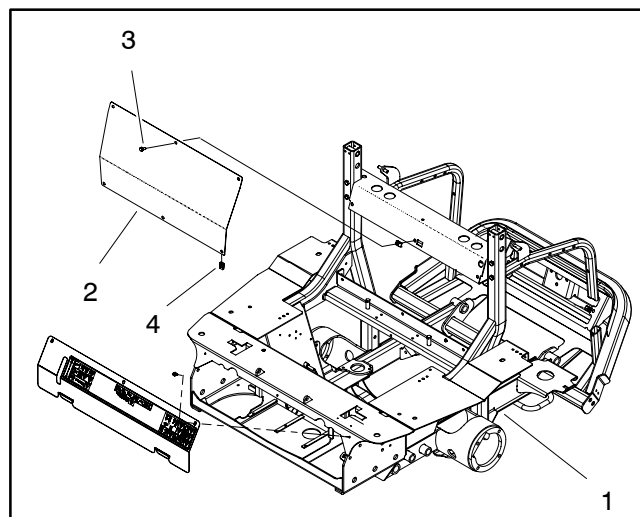

Figure 10
4. Remove six (6) flange head screws that retain rear panel to frame (Fig. 10). Remove rear panel.
22. Secure rear panel to frame with six (6) flange head screws (Fig. 10).